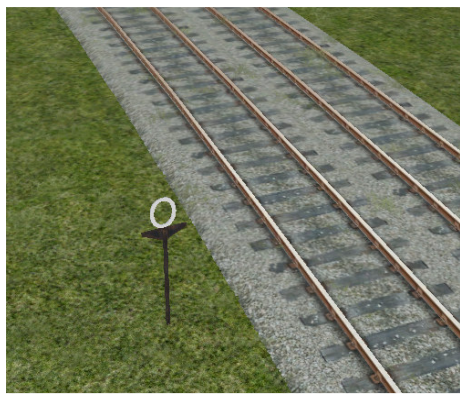

Figure 17 Placed model (Speed Sign 1 Bath)
- 6) Position Speed Restriction sign to the side of the track at the start of the Speed Restriction. Position and rotate the model in accordance with the methods in the RS Editor User Guide. Once positioned click out of the model. (Fig 17 and 18)